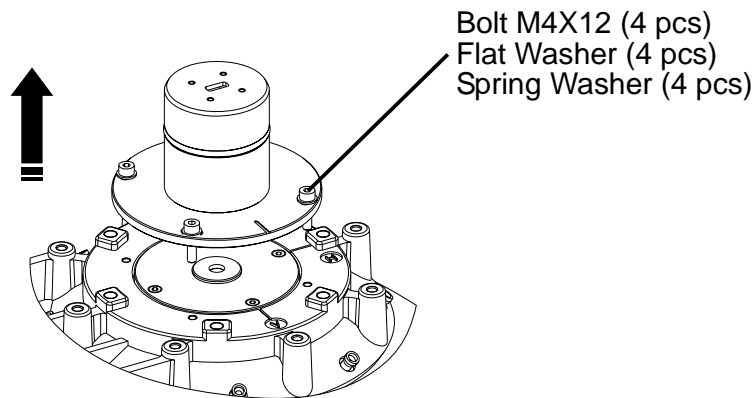

Fig 3.1
3.1 Loosen M4 bolts and removed adaptor from antenna (shown in Fig 3.1).